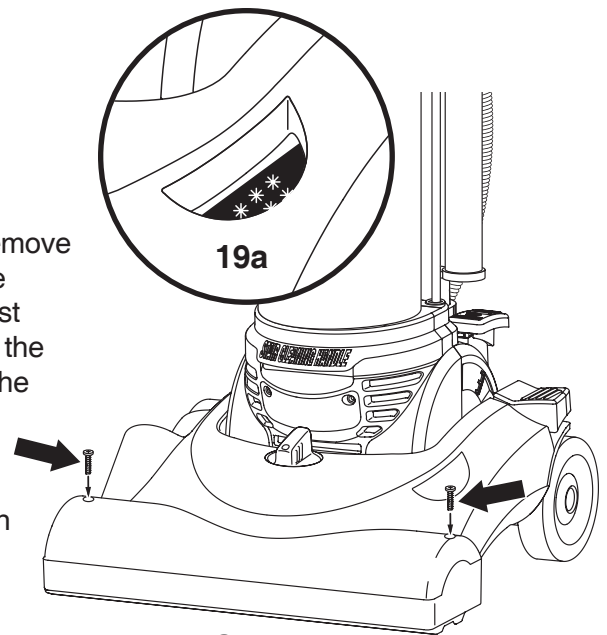
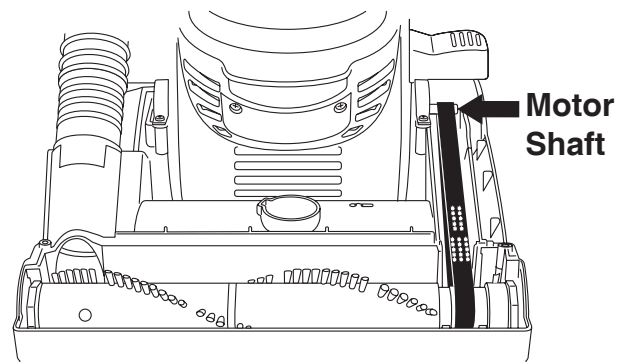

FIG. 19
FIG. 20
CAUTION: Turn off the switch and unplug the electrical cord before replacing belt. Motor shaft can become hot during normal use. To prevent injury, avoid touching the motor shaft when checking the belt. (FIG. 20)
Brushroll Performance Window (FIG. 19). To check condition of the belt watch to see if white dots on the belt are moving through the performance window (FIG. 19a). This indicates the brushroll is turning.
- Step 2:** Remove two screws to release hood (FIG. 19). Lift hood to expose belt and brushroll (FIG. 20).